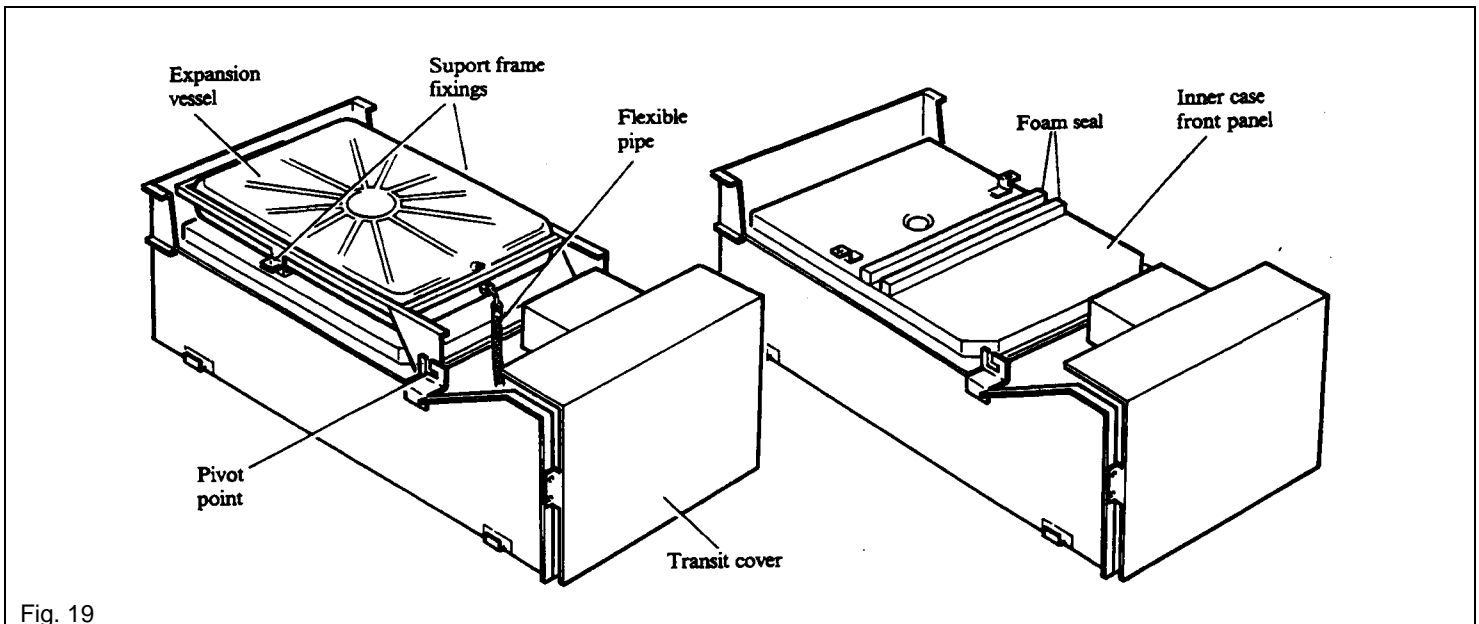

Fig. 19
Refer to Figs. 19 and 20.
1. Disconnect the flexible pipe connection to the bottom of the expansion vessel, take care not to lose the washer. Remove the two screws securing the expansion vessel support frame to the inner case front panel. Holding the vessel and frame swing them out to clear the boiler. Remove the frame and vessel from the boiler by lifting the frame out of its bottom pivoting point. See Fig. 19. Cut the foam seal in two and stick onto the inner case front panel just below the depression. See Fig. 19.
2. Remove the four screws (two at the top and two at the bottom) securing the inner case front panel and lift off the panel. See Fig. 19.
6. Remove the four screws securing the transit cover to the bottom of the boiler, see Fig. 19 and discard the cover and screws.